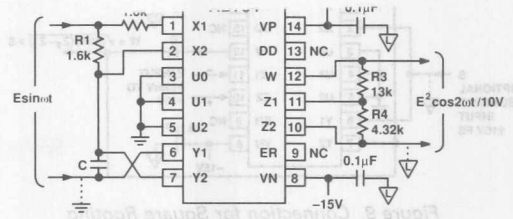

Figure 7. Frequency Doubler
Equation (8) shows a dc term at the output which will vary strongly with the amplitude of the input, E . This dc term can be avoided using the connection shown in Figure 7, where an RC-network is used to generate two signals whose product has no dc term. The output is